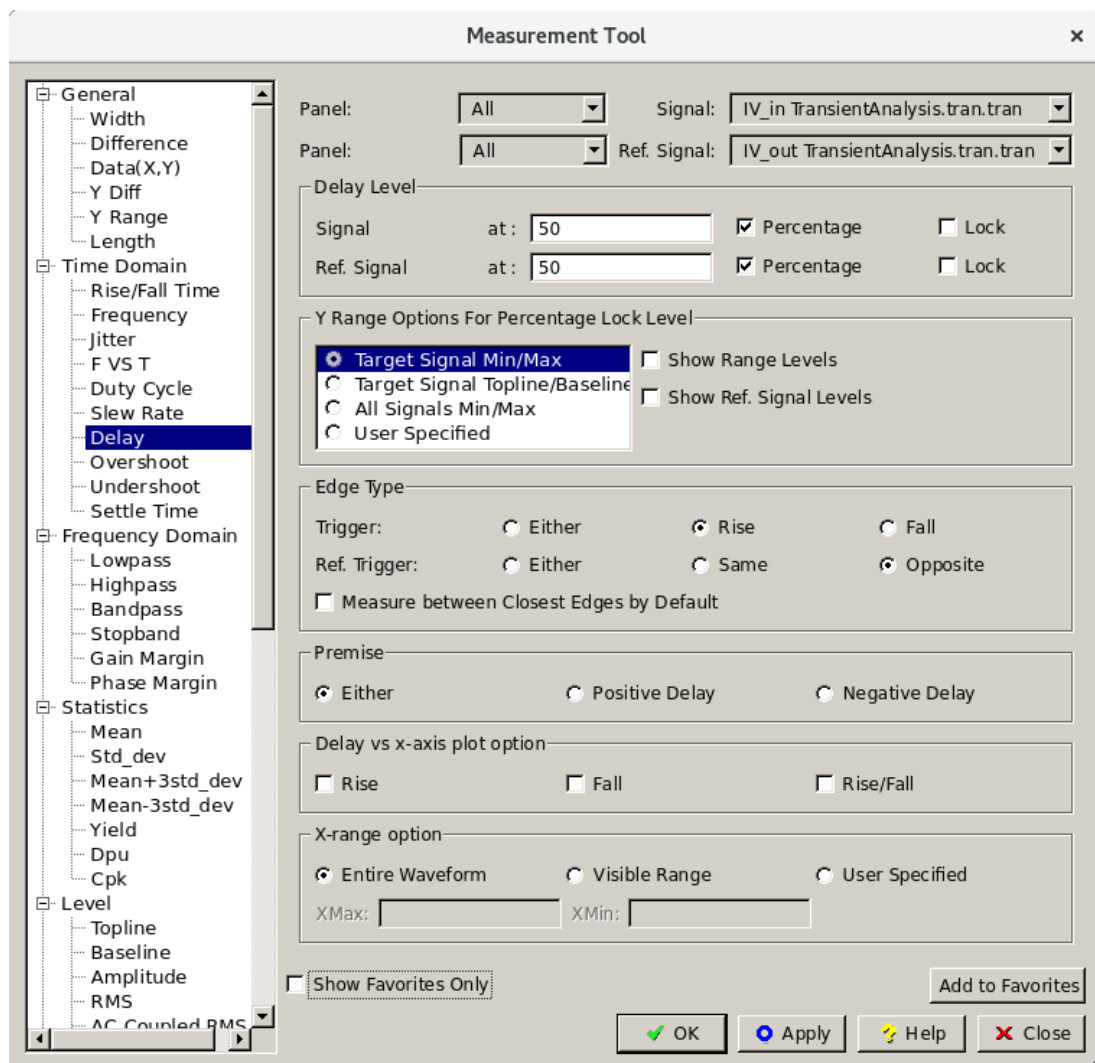

Figure 3. Management tool
- Open measurement tool by going to Utilities > Measurement Tool. A window like the one shown in Figure 3 will appear.